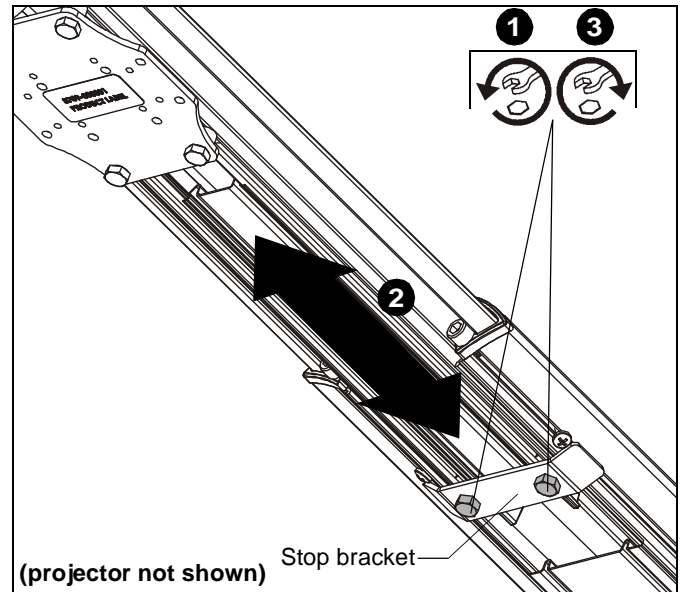

Figure 27
1. Loosen two bolts holding stop bracket in place on underside of short throw projector mount. (See Figure 27)
2. Adjust mount to desired extension length. (See Figure 27)
3. Tighten two bolts holding stop bracket to secure mount in desired position. (See Figure 27)